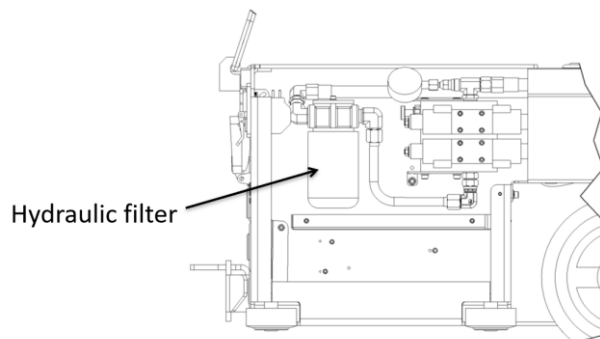

Figure 21 : Hydraulic filter location
3. Unscrew the hydraulic filter (see Figure 21). The location of the hydraulic filter may slightly be different depending on the model.